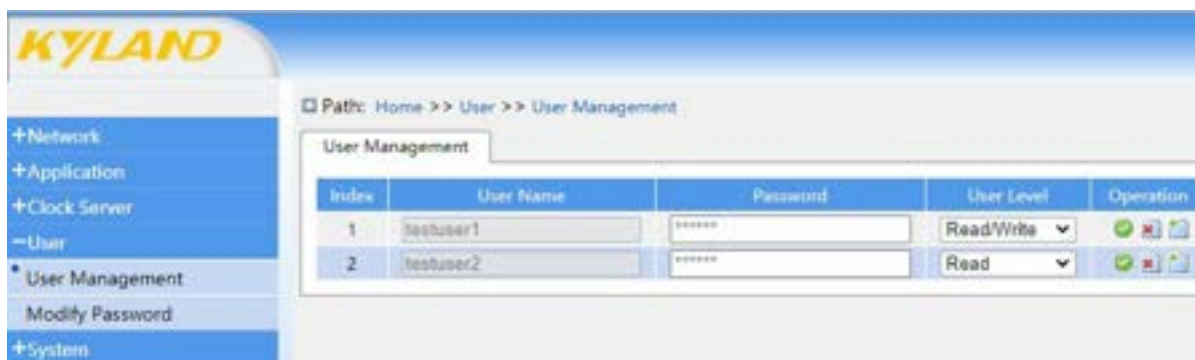

Figure 90 Creating A New User
1. Create a new user, as shown in Figure 90: